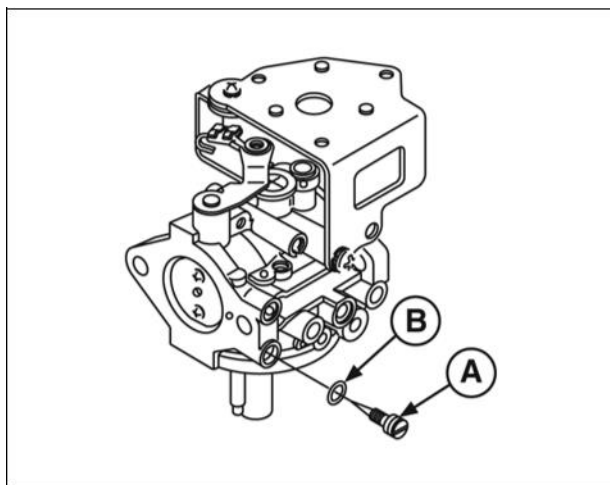

Figure 36
11. Remove idle mixture screw (A, Figure 36) and o-ring (B). Discard o-ring.